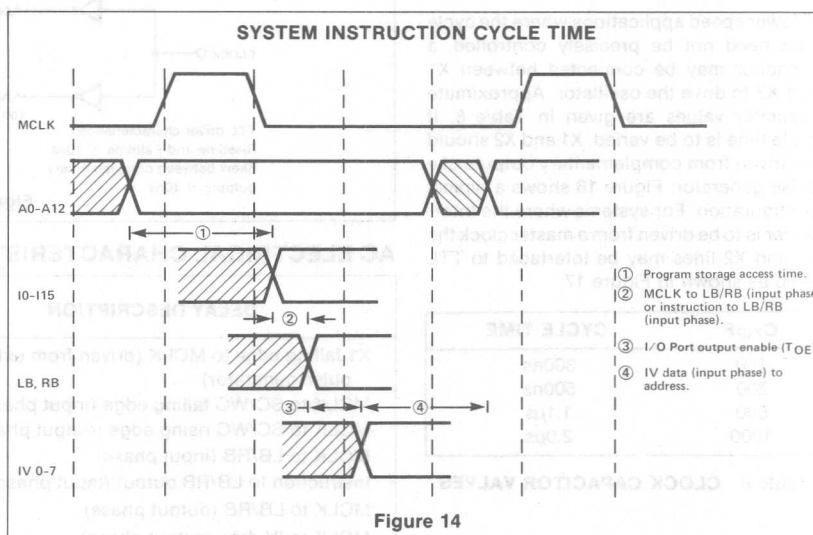

Figure 14
2. Program storage access time and instruction to LB/RB (input phase) and I/O Port output enable and IV data (input phase) to address \leq instruction cycle time (Figure 14).